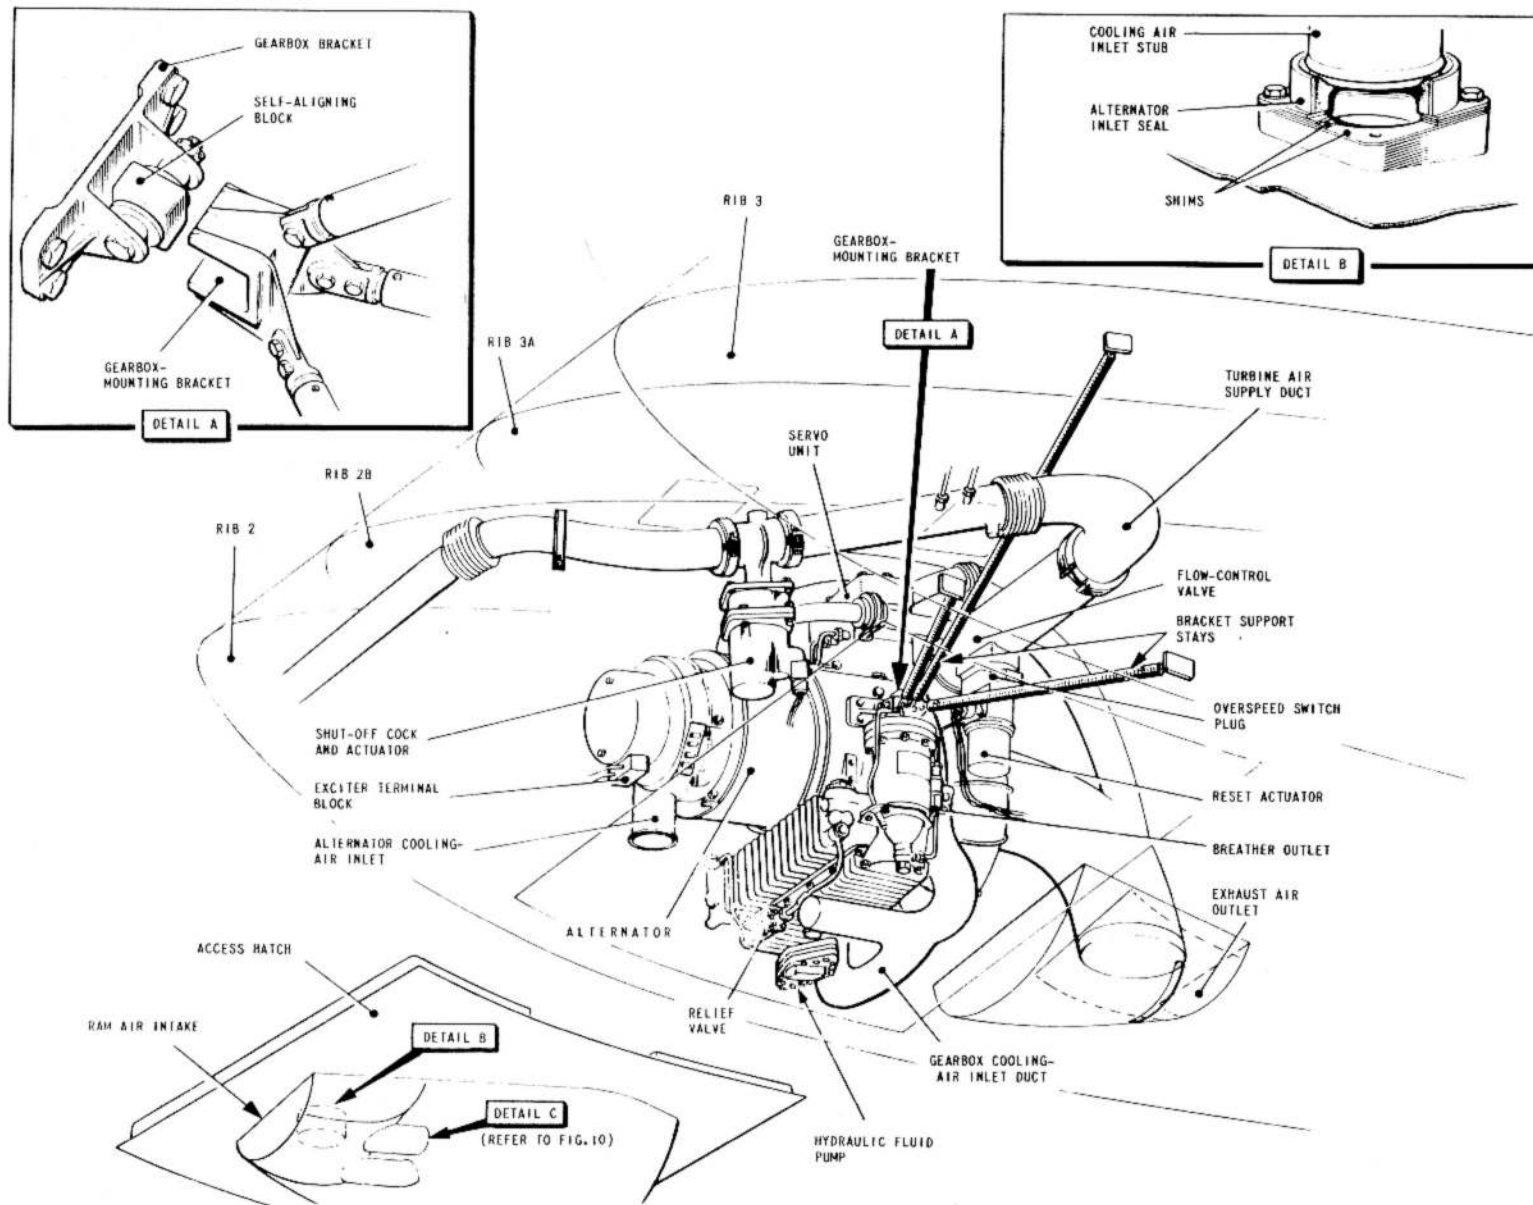
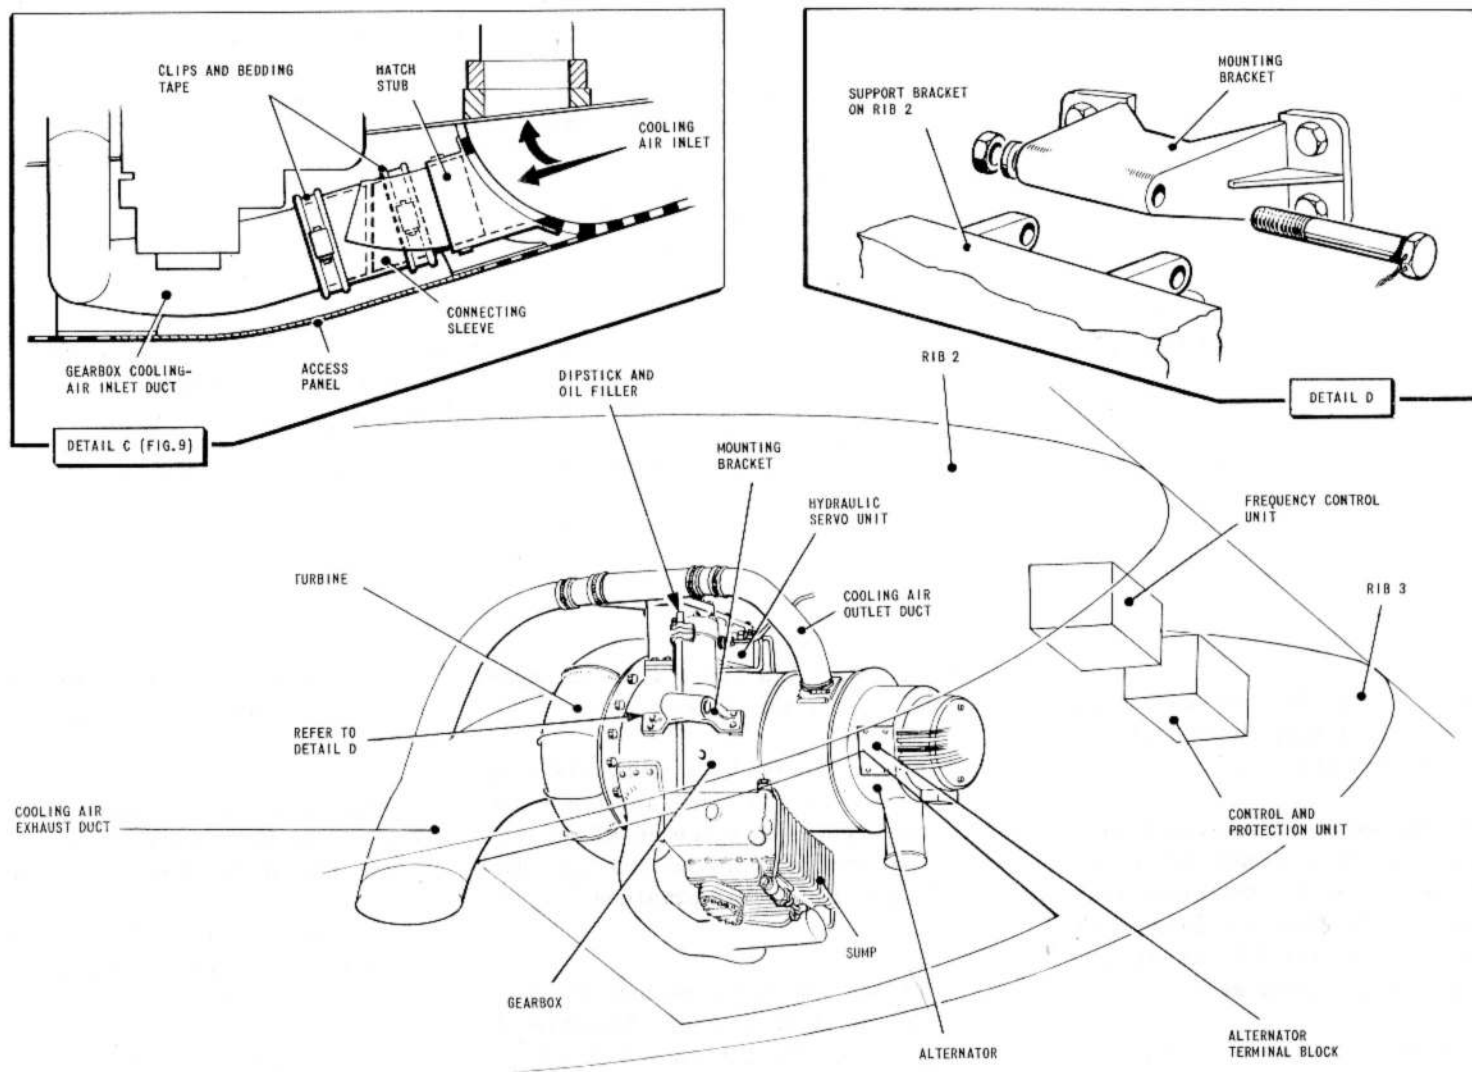

FIG. 9. TURBINE - GEARED ALTERNATOR - REMOVAL AND ASSEMBLY (1)
FIG. 10. TURBINE - GEARED ALTERNATOR - REMOVAL AND ASSEMBLY (2)
KEY TO FIG. 9, 10 AND 11 (TURBINE-GEARED ALTERNATOR - REMOVAL AND ASSEMBLY)
(1) Ensure that the 28-volt d. c. supplies to the turbine-geared alternator are switched off.
(2) Remove the small access panel from the access hatch and loosen the clips of the sleeve connecting the hatch stub with the gearbox cooling air inlet duct (fig. 9 and 10, detail C); slide the sleeve clear of the hatch stub.
(3) Remove the access hatch, complete with ram-air intake, from beneath the main plane.
(4) Remove the two access panels (in line with rib 2B, port side, and rib 2B
KEY TO FIG. 9, 10 AND 11 (TURBINE-GEARED ALTERNATOR - REMOVAL AND ASSEMBLY) - continued
(12) Remove the pipe connections from the sump vent.
(13) Remove the bolts securing the cooling air inlet ducts to the gearbox apertures. Remove the ducting.
(14) Remove the locking wire from the bolt head and remove the nut, washers and bolt (*fig. 10, detail D*) securing the gearbox assembly to the mounting bracket.
(15) Tilt the turbine-g geared alternator so that the mounting bracket can be withdrawn from the self-aligning block (*fig. 9, detail A*) and then move the assembly forward until it is clear of both attachment brackets. Using the hoists, lower the assembly down through the access hatch and on to a suitable stand.
(16) Release the air pressure in the hydraulic fluid accumulator, and fit blanking plates to all apertures.
(4) Carefully raise the unit into the main plane and, when in position, tilt it so that the gearbox mounting bracket (*fig. 9, detail A*) slides on to the self-aligning block. Position the unit so that the mounting bracket (*fig. 10, detail D*) lines up with the support bracket before fitting the attachment bolt, washer and nut. After tightening the nut, wire-lock (with 22 s.w.g. wire to D.T.D. 189) the head of the bolt to the adjoining structure. Remove the hoists and supports.
(5) Remove the transport covers from the flow control valve inlet, the turbine outlet and the cooling air inlet and outlet ports of the gearbox and alternator. Remove the transport cover from the gearbox breather outlet, the tape from the holes in the top plate of the flow-control valve, and fit the breather outlet pipe.
(6) Connect the air supply duct to the flow-control valve, the air exhaust duct to the turbine and the cooling air outlets to the alternator and gearbox respectively, using split clamps. Tighten the bolts in the clamps evenly to ensure that firm joints are obtained without distortion of either the bolts or the clamps.
(7) Fit the gasket shims to the gearbox cooling air inlet flanges, removing the shims as necessary for adjustment; then secure the cooling air ducts to
(8) Slide the connecting sleeve (*fig. 10, detail C*), complete with its bedding tape and clips, clear of the ends of the gearbox cooling-air ducts until the access hatch is fitted.
(9) Unscrew the protective cap from the electrical plug on the hydraulic servo, and connect the socket on the cable loom from the frequency control unit.
(10) Remove the covers from the two
plane undersurface, taking care that the alternator inlet seal (*fig. 9, detail B*) seats firmly on the alternator cooling air intake stub. Peel off or add shims as necessary, tightening the bolts of the seal mounting when satisfactory adjustment has been achieved.
(14) Remove the small access door from the access hatch. Slide the connecting sleeve (*fig. 10, detail C*) and secure it by its clips to the gearbox cooling air duct and the stub of the hatch. Refit the access door.
(15) With the engine running, carry out an electrical functioning test (*Sect. 6, Chap. 13*).